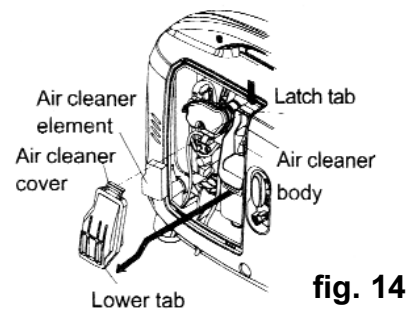

fig. 14
4.2.2 Press the latch tab on top of the air filter body and remove the filter cover. Refer to fig. 14.